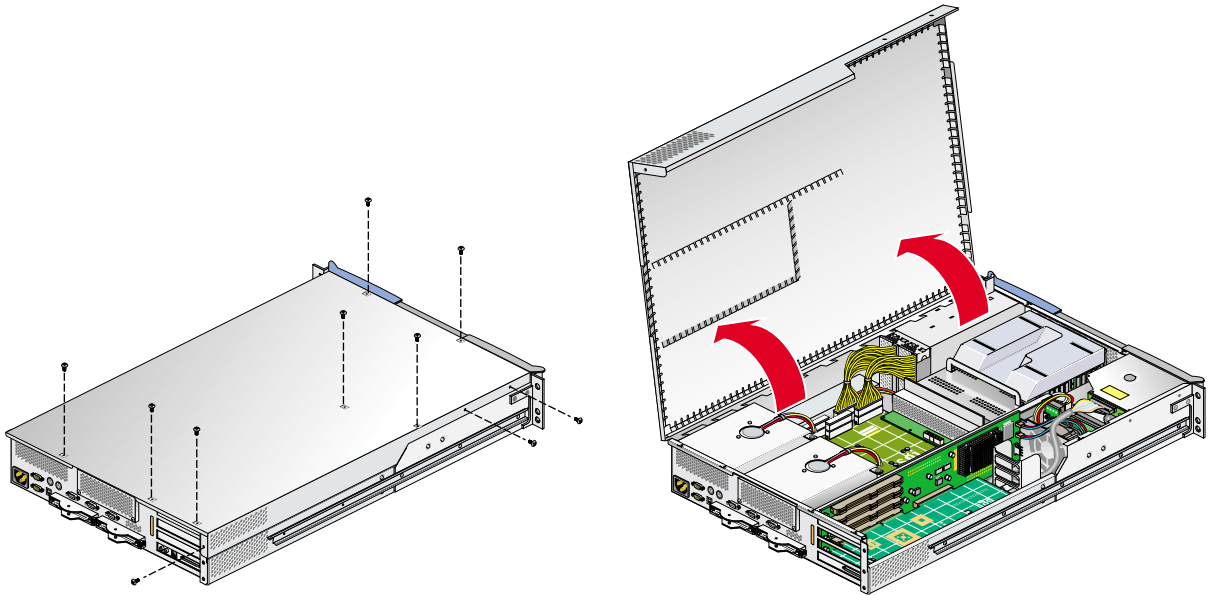

Figure 6-28 Opening Module to Remove DIMM
5. To access the DIMMs, remove the ten Phillips screws shown in Figure 6-28 and open the hinged cover.